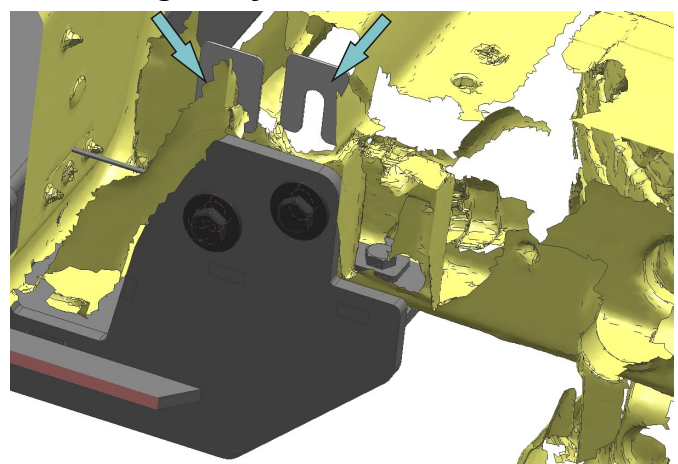

Fig. 12
12. Adjust space between bracket and longeron, if needed, using adjusting plates 2mm (item 13) (Fig. 12).